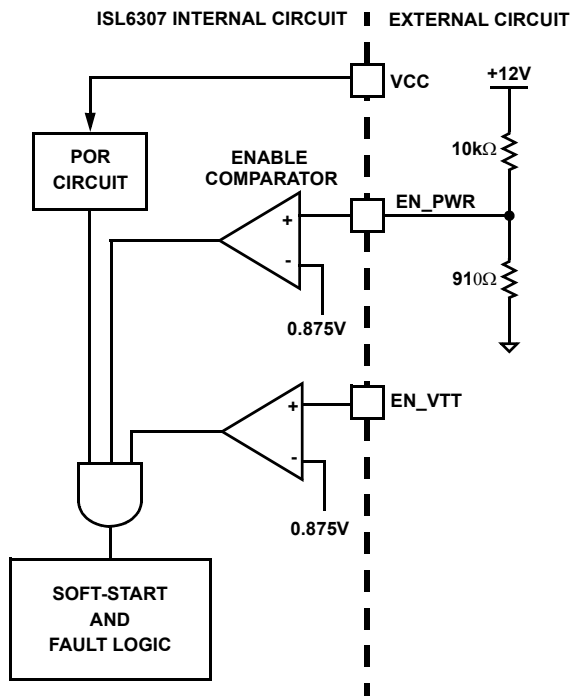

FIGURE 10. POWER SEQUENCING USING THRESHOLD-SENSITIVE ENABLE (EN) FUNCTION
2. The ISL6307 features an enable input (EN_PWR) for power sequencing between the controller bias voltage and another voltage rail. The enable comparator holds the ISL6307 in shutdown until the voltage at EN_PWR rises above 0.875V. The enable comparator has about 130mV of hysteresis to prevent bounce. It is important that the driver ICs reach their POR level before the ISL6307 becomes enabled. The schematic in Figure 10 demonstrates sequencing the ISL6307 with the ISL66xx family of Intersil MOSFET drivers, which require 12V bias.